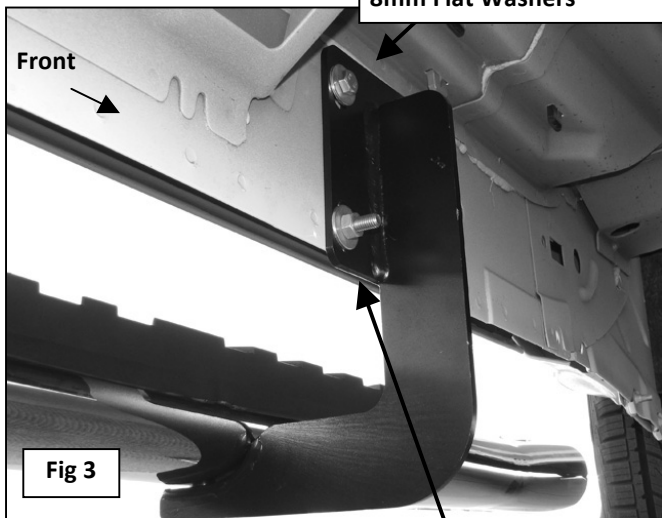

Fig 3
4. Partially attach the passenger side front Mounting Bracket to the Clip Nuts using the included (2) 8mm x 30mm Hex Bolts, (2) 8mm Lock Washers and (2) 8mm Flat Washers, (**Figure 3**). **NOTE:** Cradles on the Mounting Brackets should face the front of the vehicle.
5. Bolt the (2) bottom holes in the Mounting Bracket to the (2) holes in the pinch weld using the included (2) 8mm x 30mm Hex Bolts, (2) 8mm Lock Washers, (4) 8mm Flat Washers and (2) 8mm Hex Nuts, (**Figure 3**). Do not tighten hardware at this time.
- Carefully unwrap and position the Sidebar onto the (2) Mounting Brackets. Bolt the Sidebar to the Brackets with (4) 8mm x 25mm Hex Bolts, (4) 8mm Lock Washers, and (4) 8mm Flat Washers, **(Figures 3 & 4)**. Do not tighten at this time.